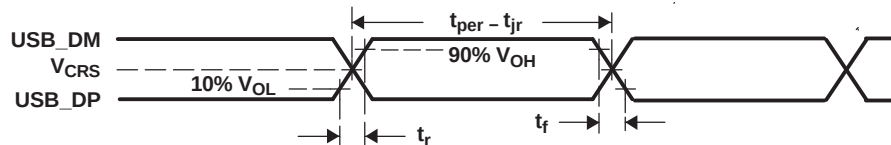

**Figure 6-43. USB2.0 Integrated Transceiver Interface Timing**
**Table 6-84. Switching Characteristics Over Recommended Operating Conditions for USB0 [USB2.0] (see Figure 6-43)**